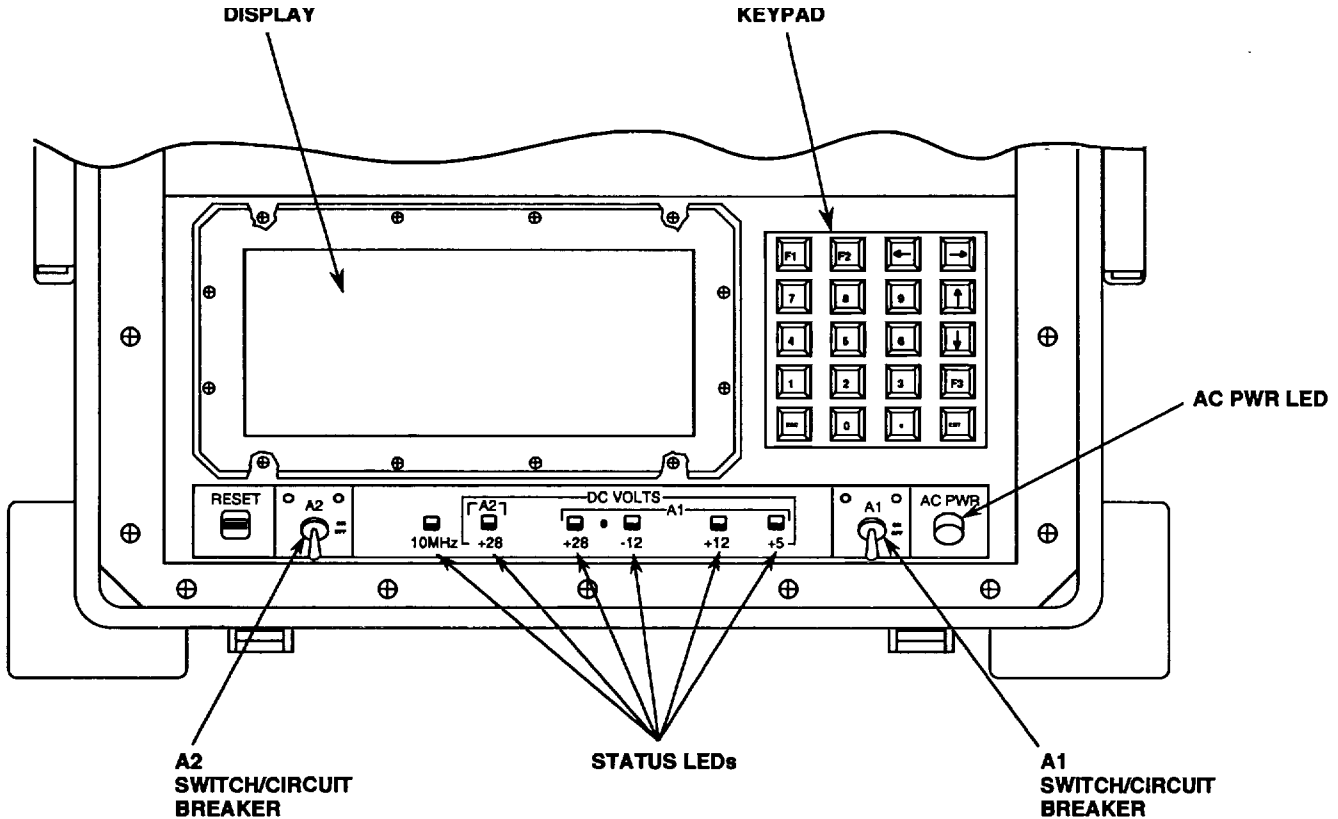
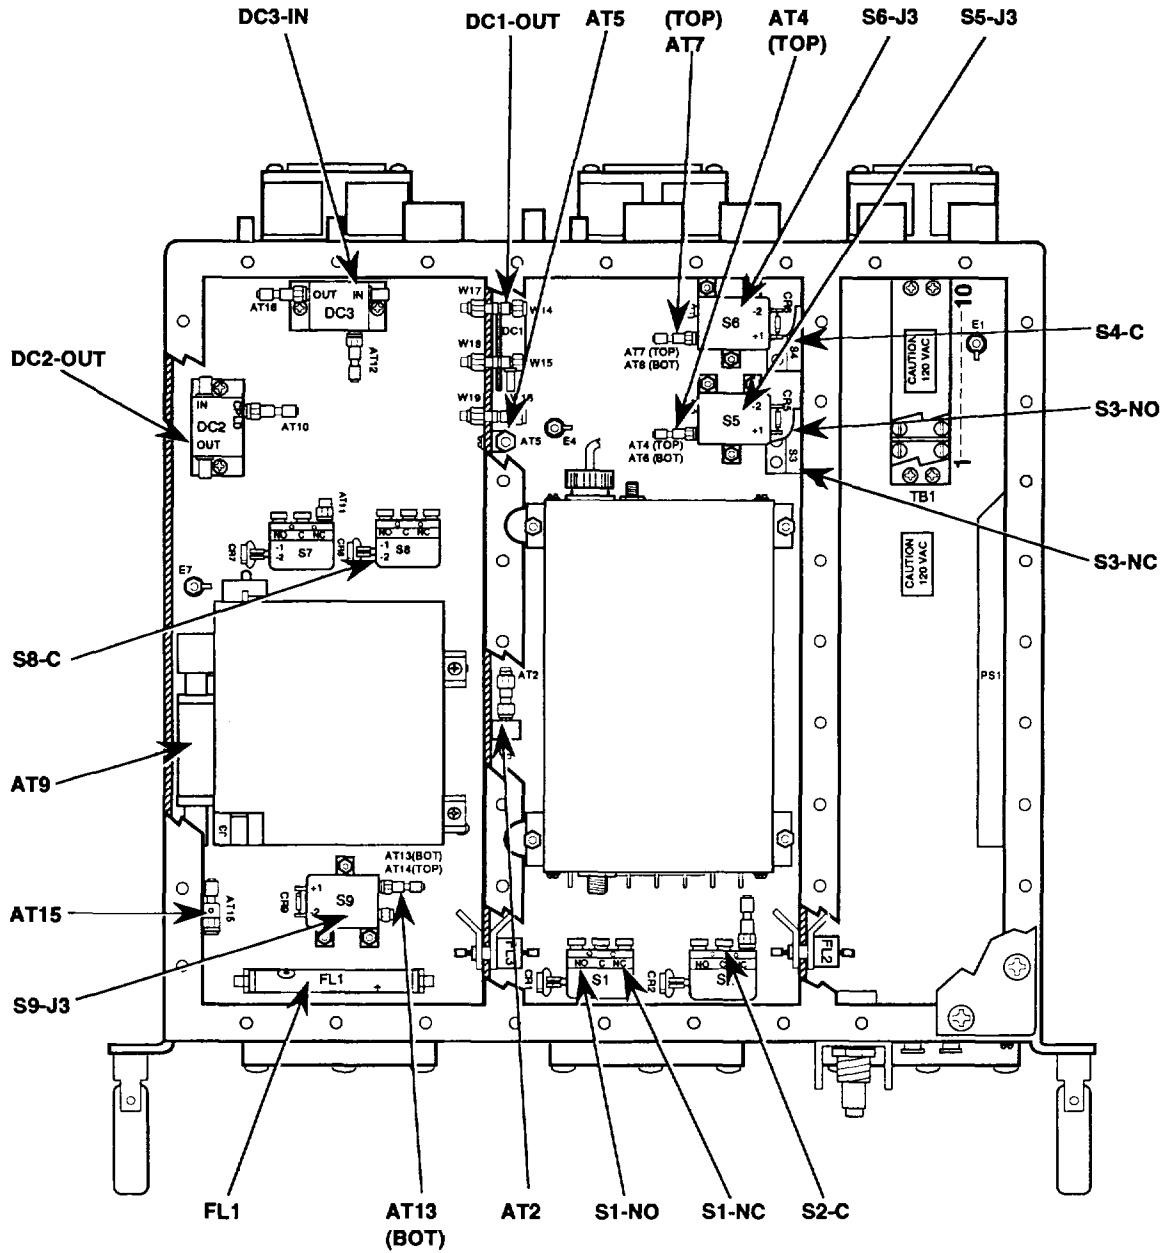
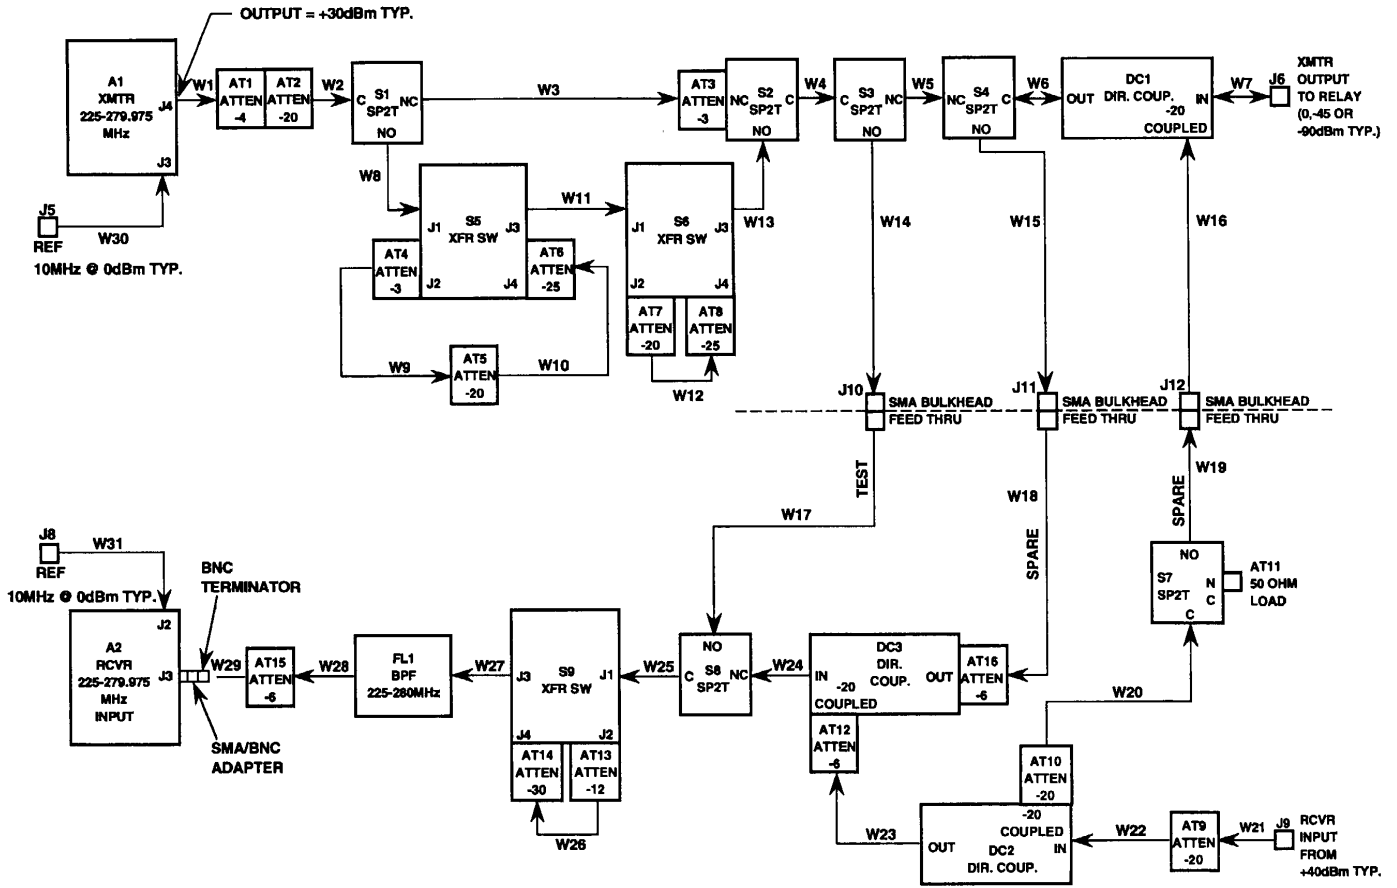

FIGURE 5-19. TS-4398/U CONTROLS AND INDICATORS
FIGURE 5-21. OQ-458/U RF FLOW TEST I TEST POINTS.
FIGURE 5-22. OQ-458/U RF FLOW DIAGRAM.
All cables used during the OQ-458/U RF Test are found in cable assembly case CY-8676/U unless otherwise noted. The interconnections for the test are shown in figures 5-20 and 5-23. Figure 5-20 shows the RF flow test I interconnection. Figure 5-23 shows the RF flow test II interconnection. Figures 5-21 and 5-24 show the RF flow test I and RF flow test II test points, respectively. The test controller, TS-4398/U, controls and indicators used during the test are shown in figure 5-19. The OQ-458/U RF Flow Diagram is shown in figures 5-22 and 5-25.
16.	Using table 5-4 and figure 5-22, disconnect the identified cable and connect the input of the spectrum analyzer to the various test points to isolate to the test point where the signal is not correct. Begin at a test point half-way through the circuit to save troubleshooting time. Reconnect cables before going to the next test point. If the expected signal is not found, work backwards through the table until a desired signal is found, then suspect the next item in table.